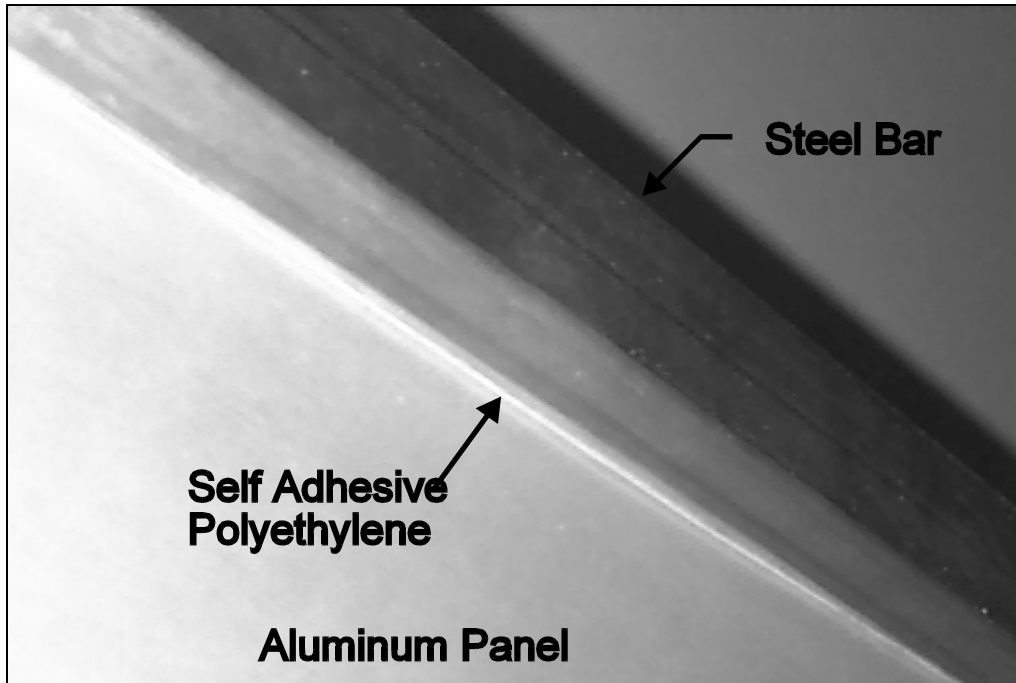

FIGURE 1: BAR ON ALUMINUM PANEL
3. Glue self adhesive polyethylene on one of the widest sides of steel bars. Properly position steel bars making sure polyethylene coated side goes on aluminum panels (Fig. 1).